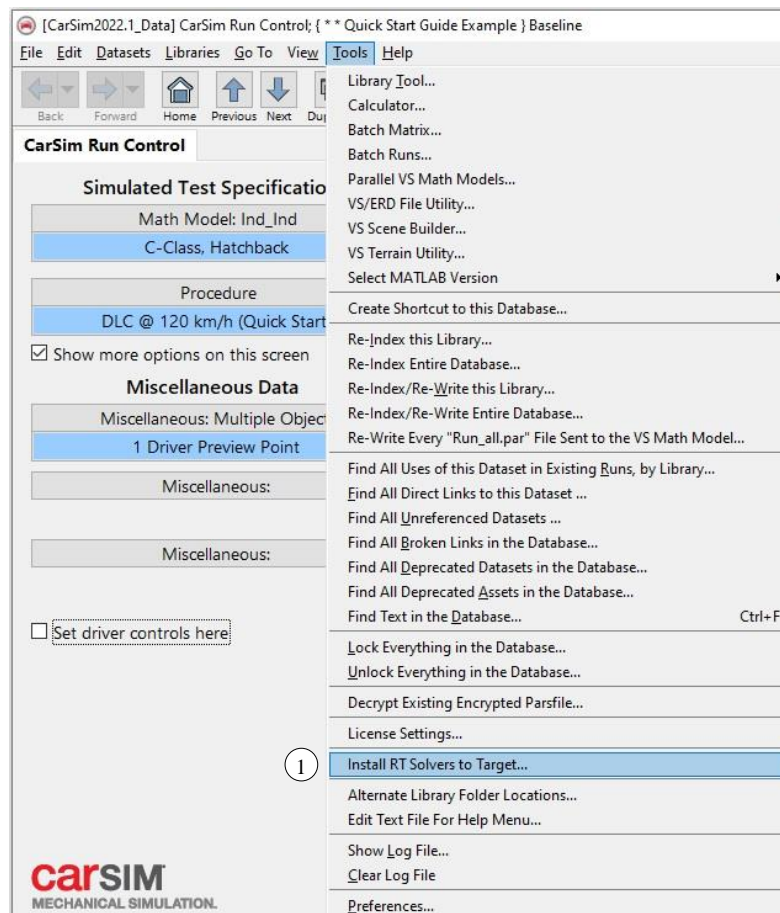
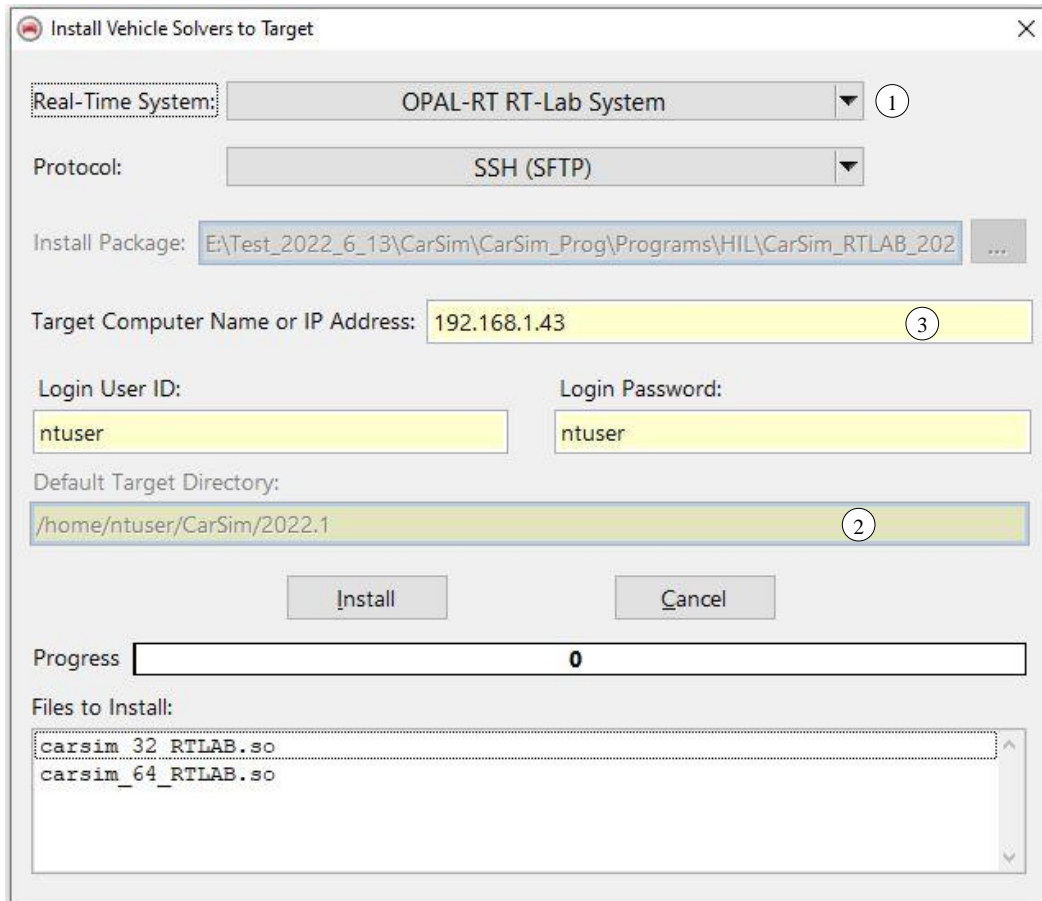

Figure 1. Tools menu to install VS RT Solvers.
Figure 2. Select a target RT System to install the Vehicle Solvers.
2. Go to **Tools > Install RT Solvers to Target...** ① (Figure 1). This opens the **Install Vehicle Solvers to Target** window (Figure 2).
3. Select Opal-RT RT-Lab System from the Real-Time System pull-down menu ① (Figure 2). The solver installation package location is automatically detected ②. Confirm that the target computer, user ID, and password are correct. Click **Install**.